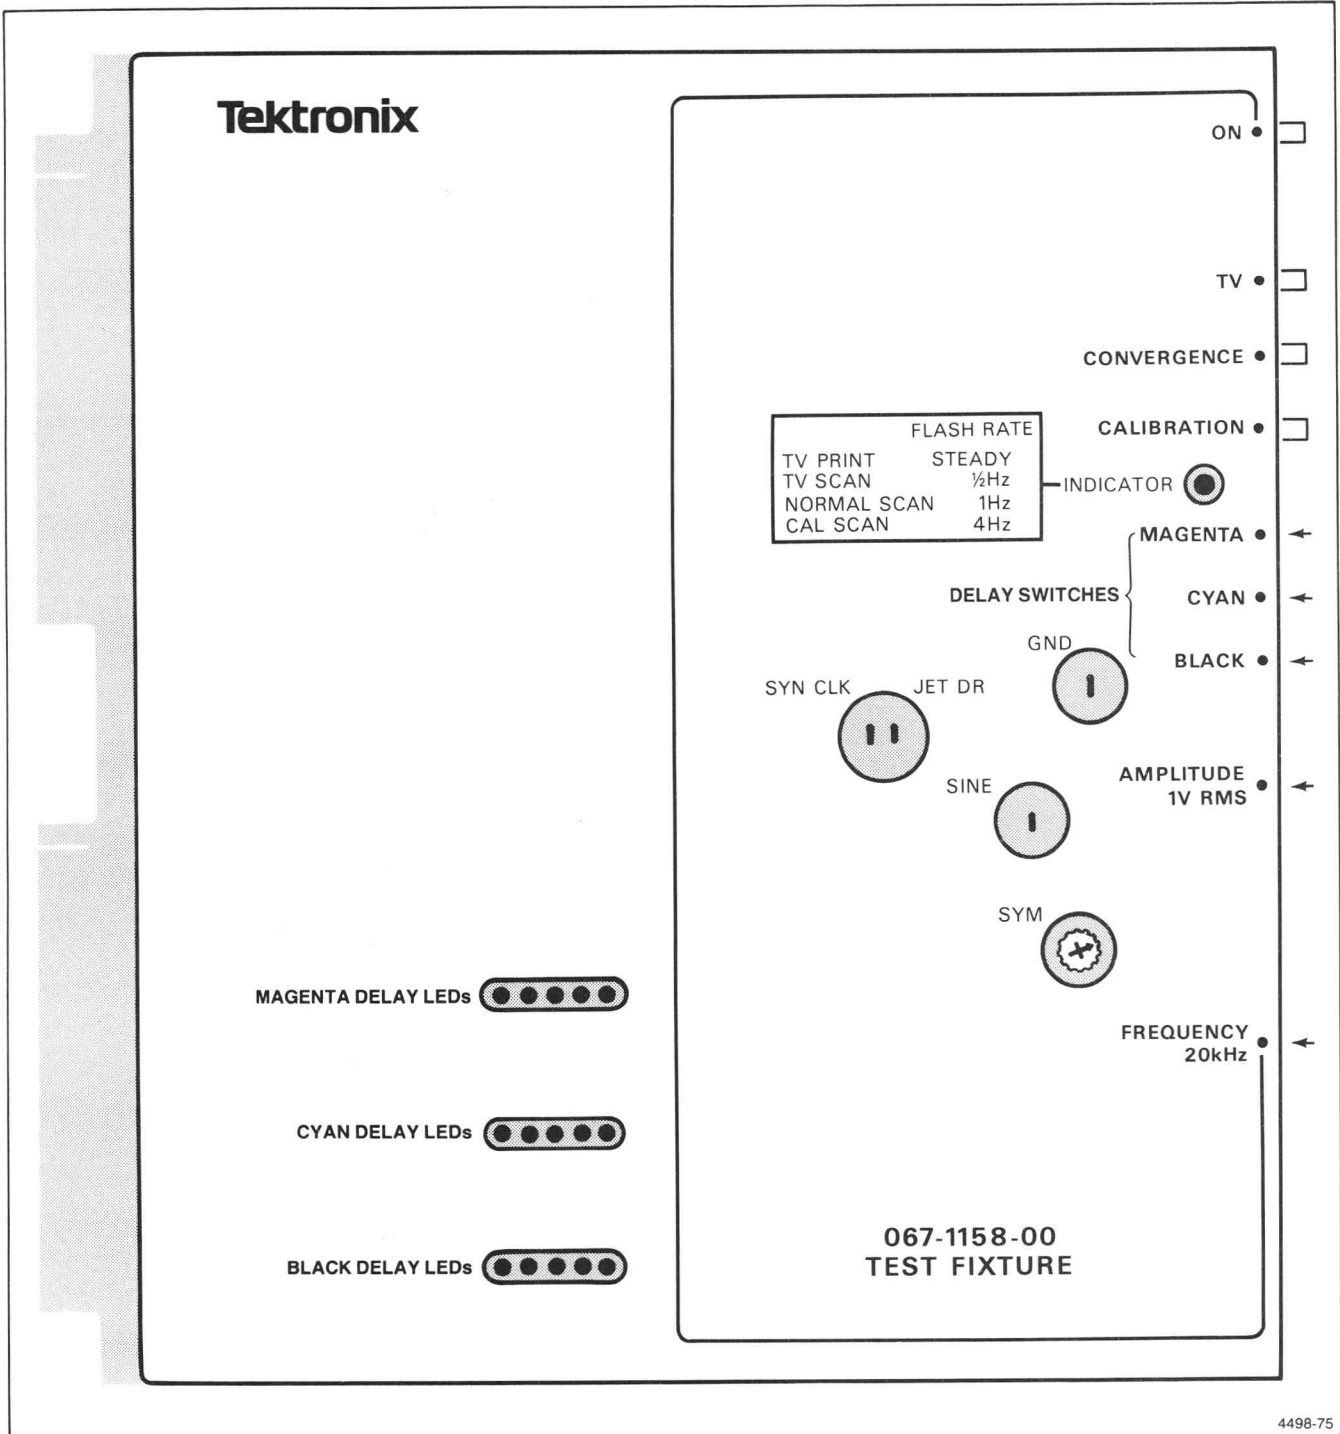

Figure 8-9. 4691 Test Fixture Locations.
5. Ensure that the Test Fixture's ON/OFF switch is in the OFF (out) position (see Figure 8-9) and the MAG, CYAN, and BLK DELAY switches are set to zero.
10. Connect an oscilloscope (1V/Div, 10 uS/Div) between SYNCLK (TP553) and ground (TP655 see Figure 8-9).